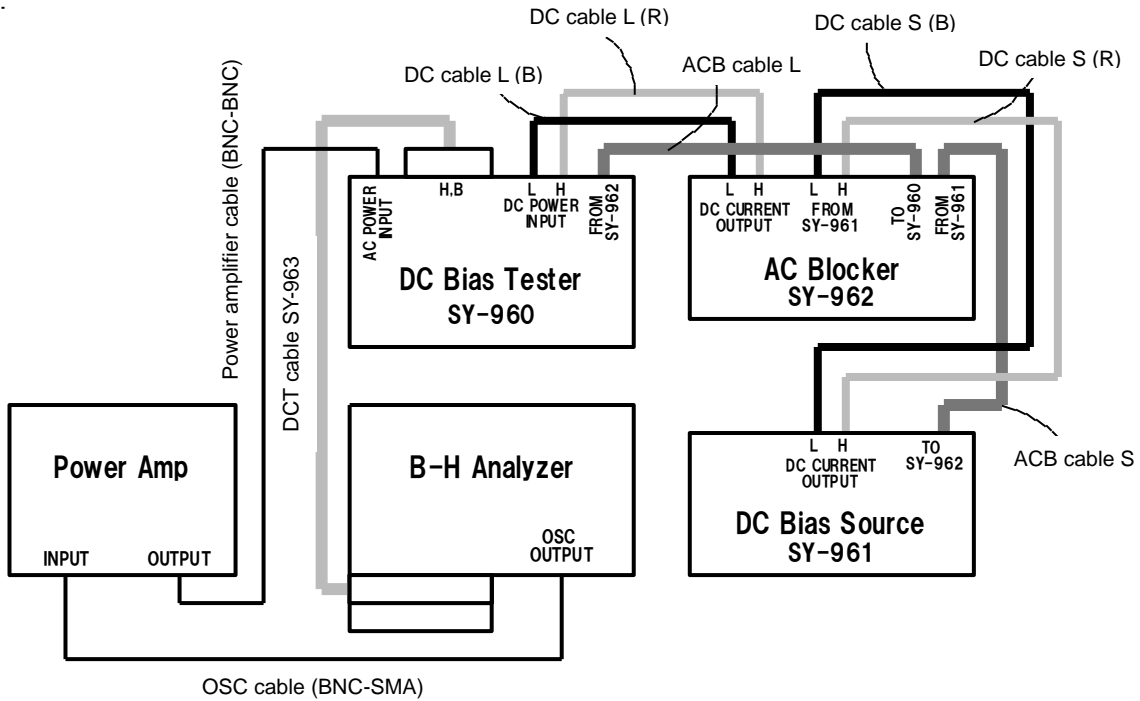
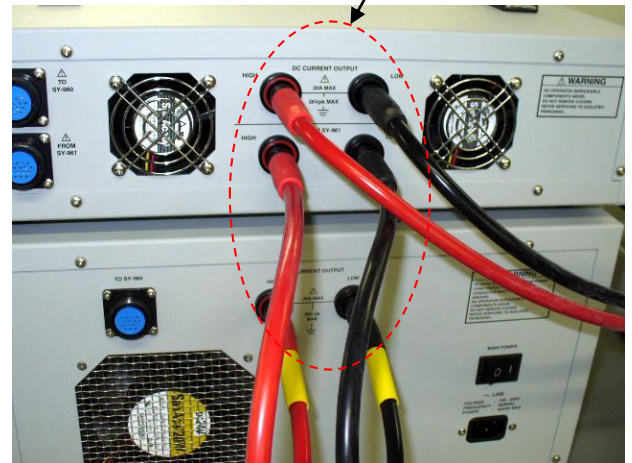
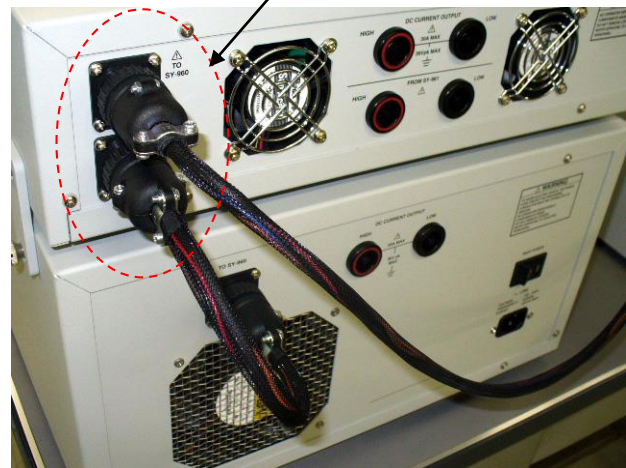

Fig. 4-3 Connecting SY-960 / 961 / 962
Fig.4-11 Connecting DC cable
Fig. 4-12 Connecting ACB cable
- Figure 4-3 shows a connection diagram of a measuring instrument in which SY-960 / 961 / 962 are mounted.
- (1) Make sure that the power source of DC Bias Source SY-961 is **always turned OFF**.
- (2) Connect a short DC cable S and a long DC cable L by following Fig. 4-3. (See Fig. 4-11)
- (2) Connect a short ACB cable S and a long ACB cable L by following Fig. 4-3.
- (3) Fit the connector, and turn the ring clockwise to fix.
- (See Fig. 4-12)